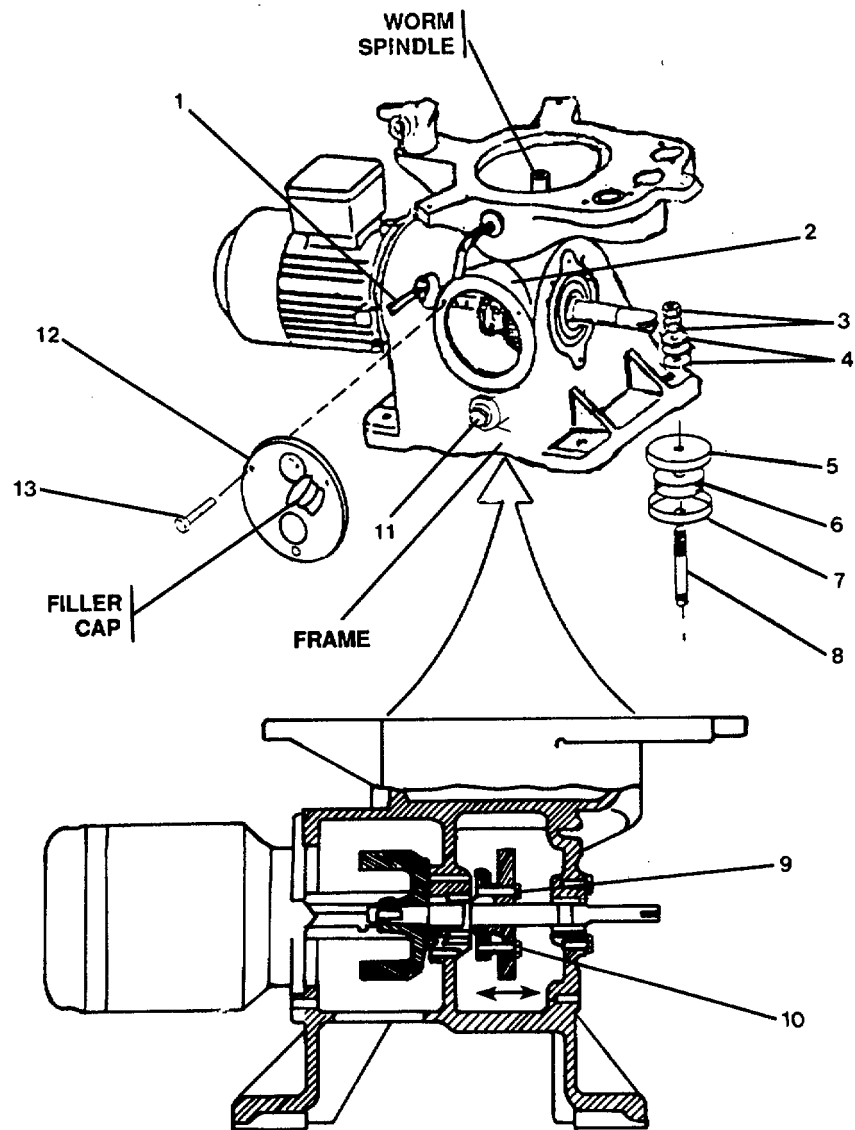

FIGURE 3-10. Purifier Frame Subassembly.
- a. Remove oil drain screw (9, 11, Figure 3-10) and drain oil.
- b. Remove three machine screws (13) from housing (2) and remove revolution indicator housing (12).
- c. Set brake by turning handle (1) counterclockwise.
- d. Loosen three hexhead screws (9) on worm wheel (10) enough to slide worm wheel to the right and clear off worm spindle.
- e. With aid of spindle screw, install worm spindle (10) into top frame, with annular ball bearing (12) and ball bearing protection ring (11) fitted into spherical plain bearing (19).
- g. Install preformed packing (5) on top frame.
- h. Position neck bearing cap (4) on top frame.
- i. Install three machine screws (2) and lockwashers (1) and secure neck bearing cap to top frame.
- j. Install spindle cap (3).
- k. Install boltguide (18), cylindrical spring (17) and gasket (16) on worm spindle bottom.
- l. Position bearing cover (15) on bottom frame with mounting screw holes aligned.
- m. Install three machine screws (13) and lockwashers (14) and secure bearing cover to bottom frame.
- Refer to Figure 3-10 for the remaining replacement procedures.
- n. Lift and position frame on caps (5), rubber cushions (6), caps (7) and mounting studs (8).
- o. Install four cup springs (4) and hex plain nuts (3) and secure frame to mounting studs.
- p. Slide worm wheel (10) left to engage with worm spindle.
- q. Secure worm wheel with hex head screws (9).
- r. Release brake by turning handle (1) clockwise.
- s. Position revolution indicator housing (12) on housing (2).
- t. Install three machine screws (13) and secure revolution indicator housing to housing.